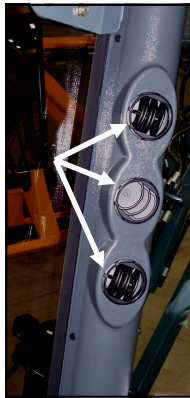

FIG. 28-1
**VENTS**— There are six adjustable vents, three on each front cab corner post (fig. 28-1). They may be adjusted by rotating them for desired direction, or individually opened and closed with the directional fins.